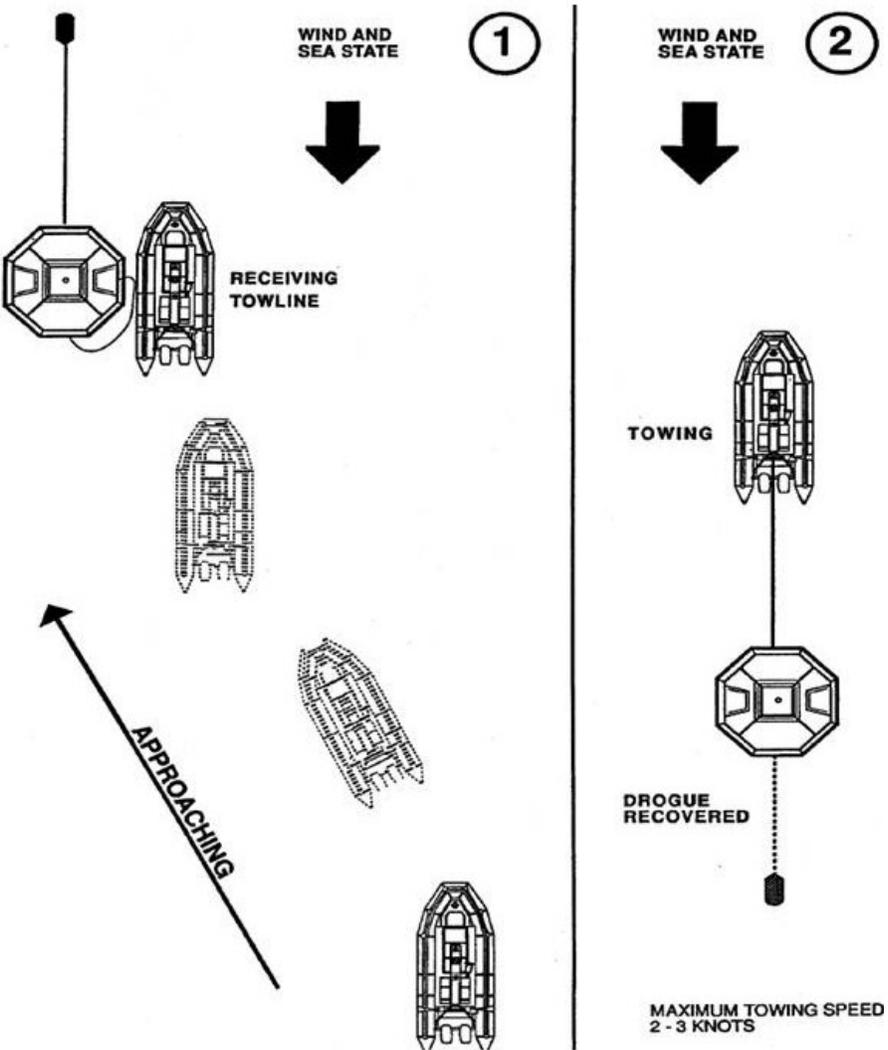

Figure 551-8ST-1034_02 (Towing Diagram)
a. Position the boat directly downwind of the survivor. (Figure 551-8ST-1034_03).